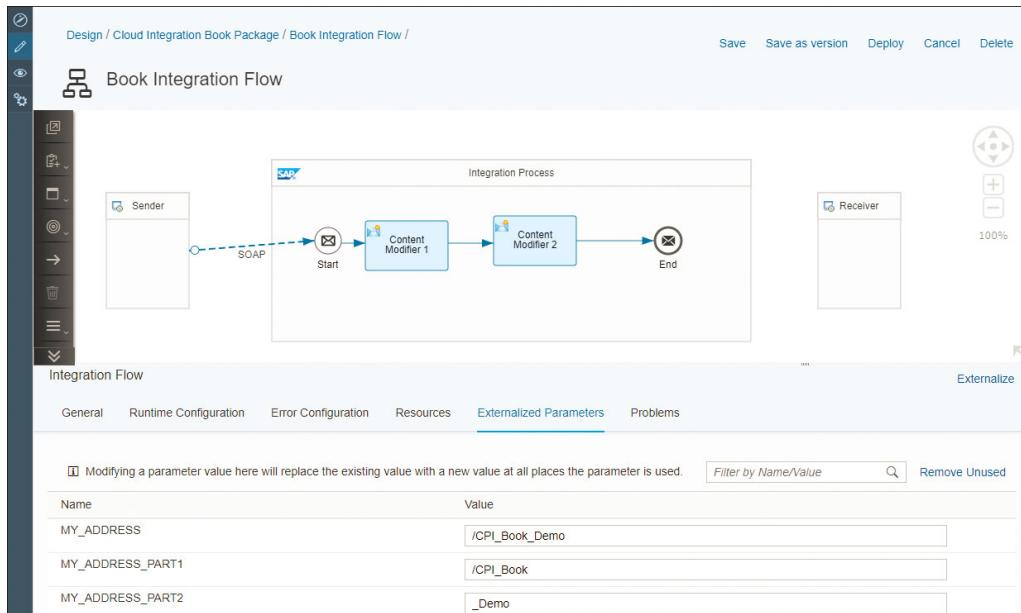
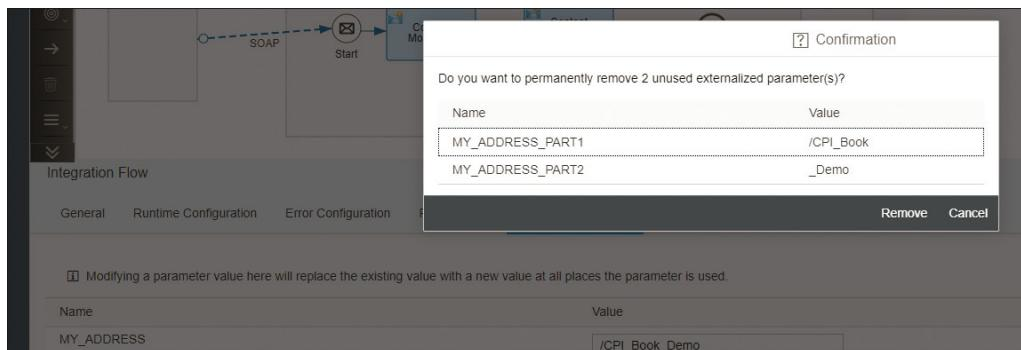

Figure 4.34 Externalized Parameters View in Design Time
Figure 4.35 Removing Unused Externalized Parameters
2. Open the integration flow in edit mode, and select the **Externalized Parameters** view, as shown in Figure 4.34. Note that this shows a list of all existing externalized parameters of the whole integration flow. These parameters aren't necessary for our example exercise; they have been added just for illustration sake.
3. In this view, you can also filter the parameters using their names or values via the **Filter by Name/Value** field (see right corner of Figure 4.34).
- Lastly, you can remove unused parameters using the **Remove Unused** link on the left side (see Figure 4.34). When you've done this, SAP Cloud Platform performs a check to identify unused parameters, and a screen appears with a request to confirm the removal of unused fields (see Figure 4.35). Upon confirmation, all unused parameters will be removed.